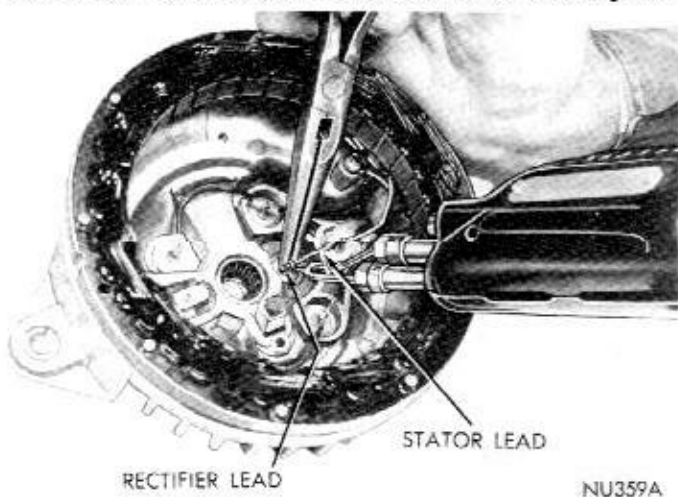

Fig. 29—Soldering Rectifier and Stator Leads
(4) Clean the leads and mate stator lead with rectifier wire and bend the loop snugly around stator lead to provide a good electrical and mechanical connection. Solder wires with resin core solder. Hold rectifier lead wire with pliers just below the joint while soldering (Fig. 29). Pliers will absorb heat from the soldering operation and protect rectifier. **After sol-**